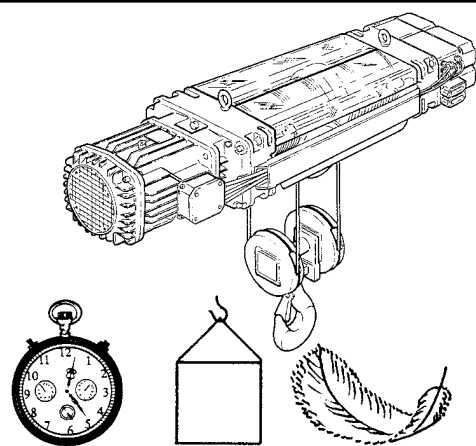

fig. 117
- **ALWAYS** check that the capabilities of the hoist correspond with the job which needs to be done (work cycles – intermittence – duration of use – load to be moved) - (fig. 117).